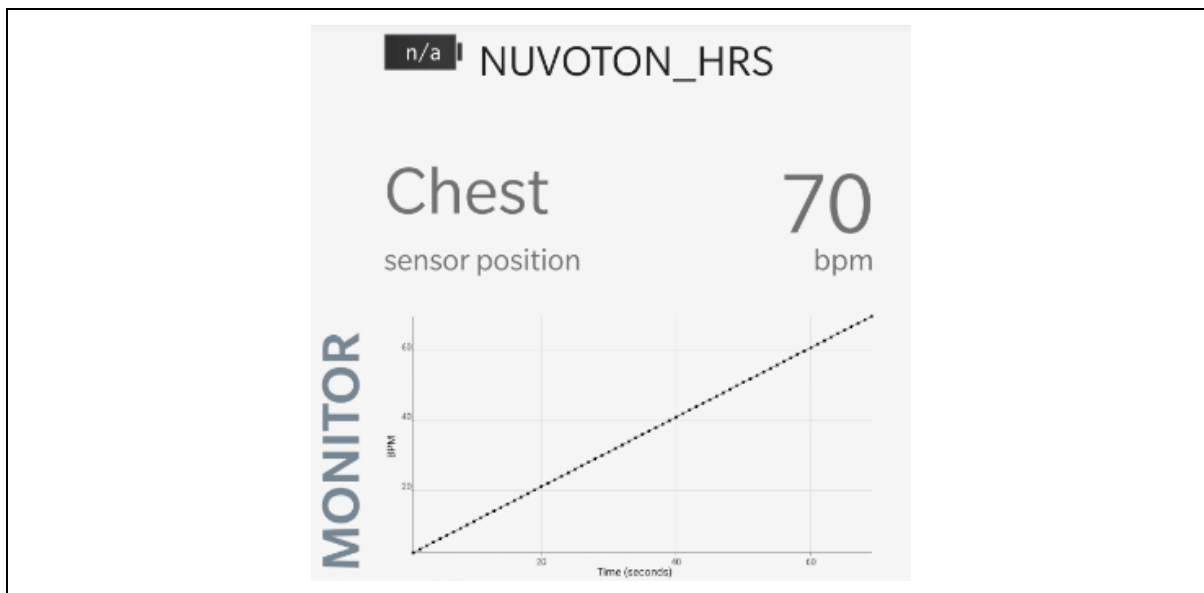

Figure 4-9 Heart Rate Measurement Screen
- After connected to HRS device, you can see the heart rate measurement value, sensor position and battery information, as shown in Figure 4-9.